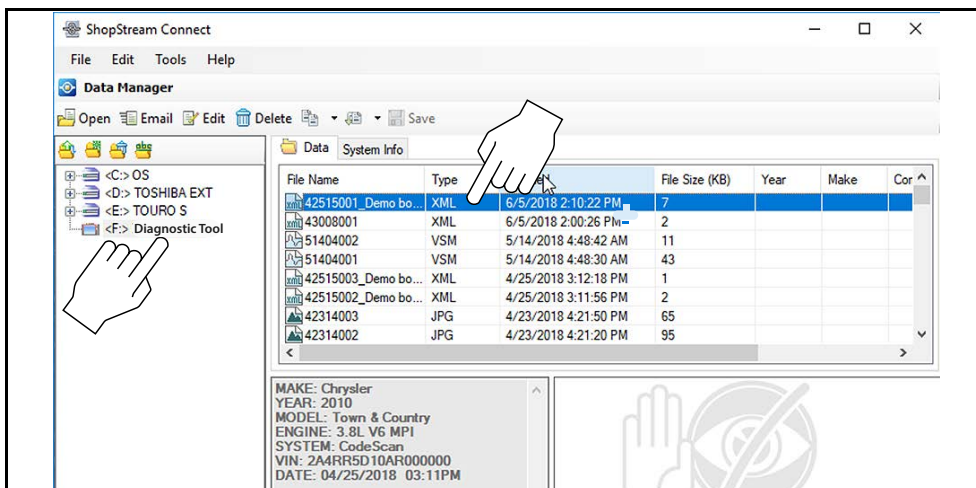
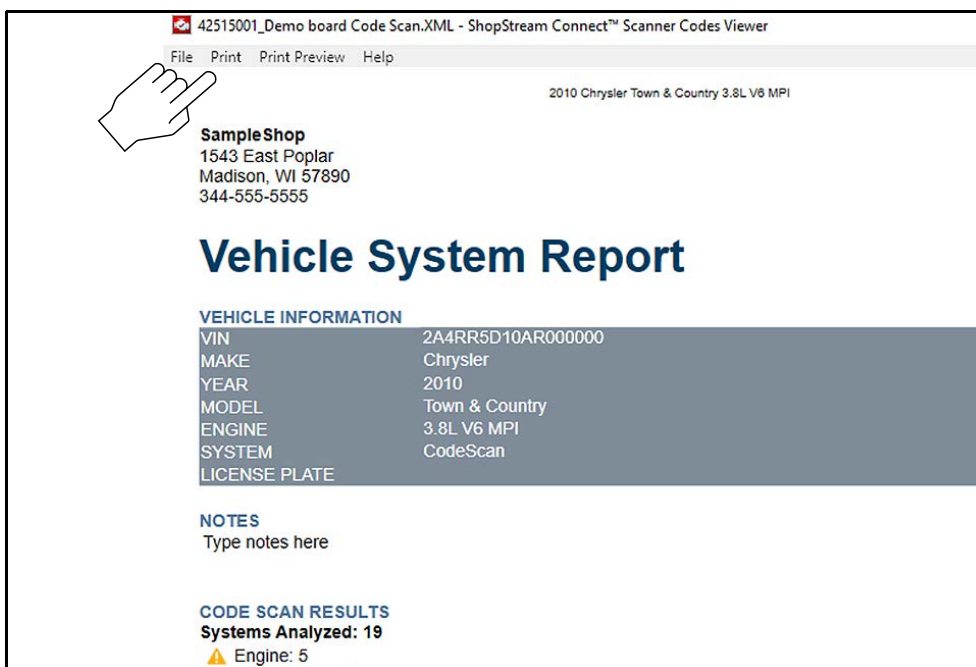

Figure 12-5
Figure 12-6
1. Double-click the code scan .XML file from the file list to open the Vehicle System Report (Figure 12-5) in the Code Scan Viewer (Figure 12-6).
2. Select **Print** or **Print Preview** from the Code Scan Viewer menu to print or preview the Vehicle System Report (Figure 12-6).